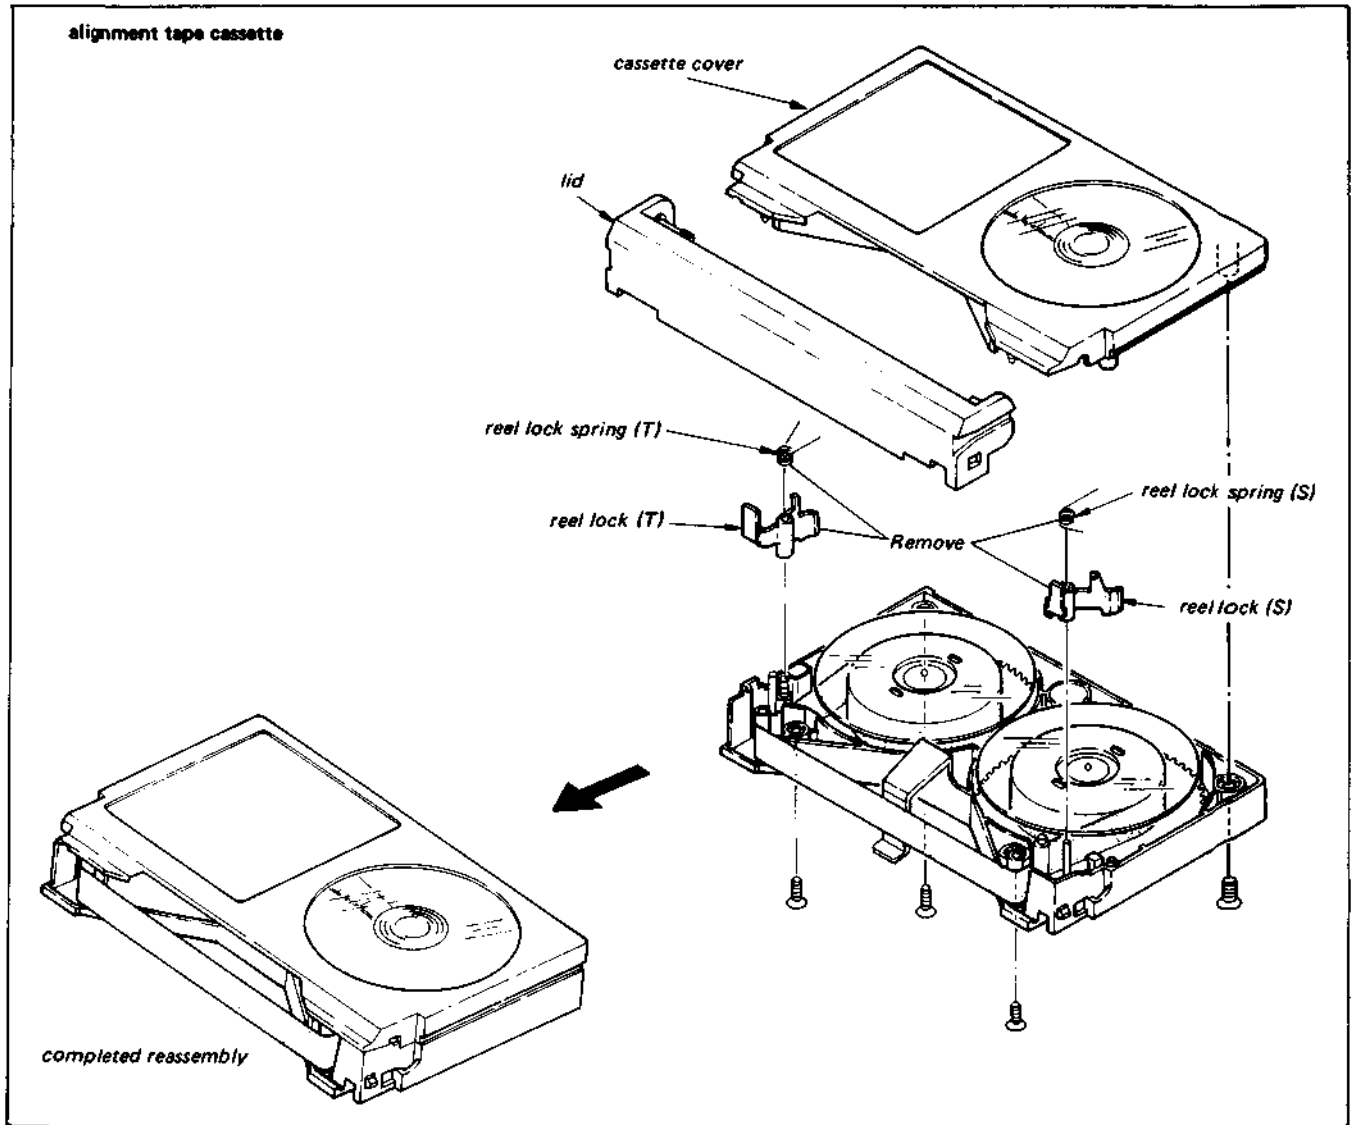

Fig. 4-1 Cassette Holder Remodeling
- 1) When modifying alignment tape KRS-2H, use caution not to dislodge the tape reels from their correct position. Refer to Fig. 4-1 and remove the four screws that secure the upper cover to the lower cover.